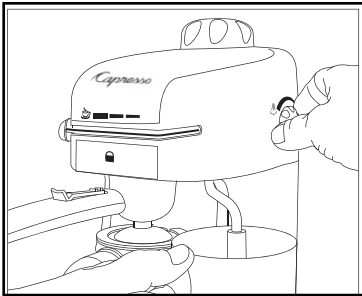

Fig. 10
2. Place an empty cup under the frother nozzle (fig. 10).